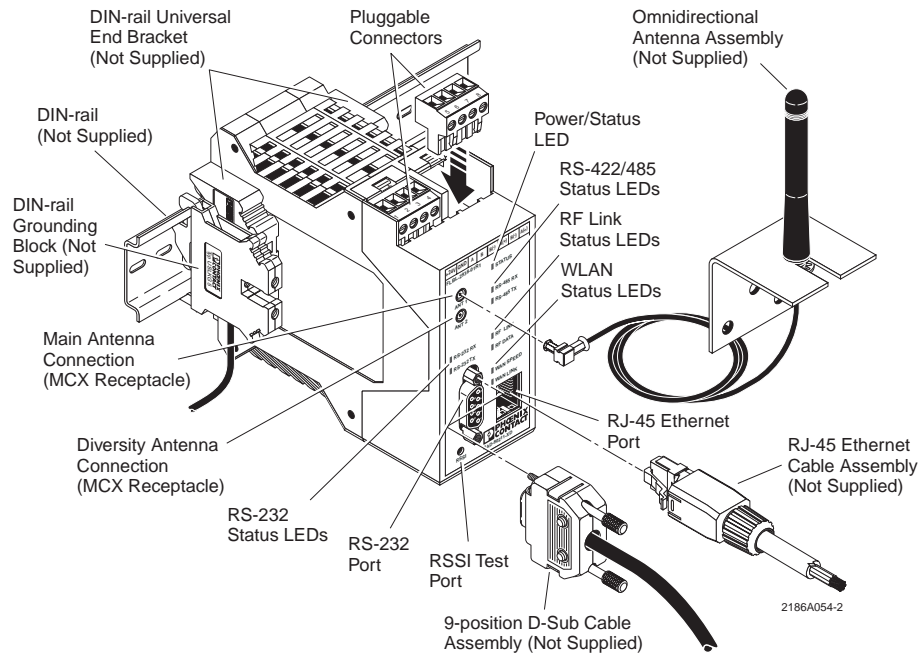

Figure 1-1. Features of the RAD-80211-XD Wireless Radio
The RAD-80211-XD is a DIN rail mount radio with a protection rating of IP20. See Figure 1-1. This radio features an RJ45 connector for connection of Ethernet devices as well as an RS232 and RS485/422 port, which gives it the capability of sending serial data to another transceiver over the 802.11 radio link. The RAD-80211-XD features an RF link dry contact for indicating a radio link and an RSSI (Received Signal Strength Indicator) voltage test point to aid installation and troubleshooting. There are two (2) antenna connectors for antenna diversity.